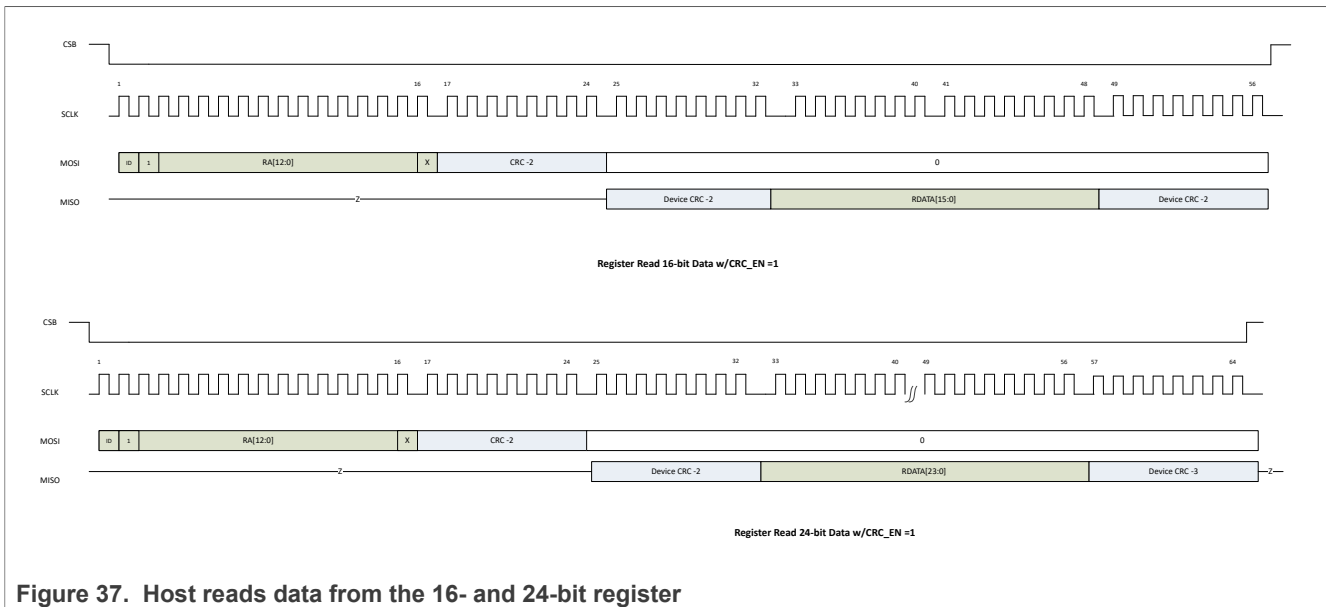

Figure 37. Host reads data from the 16- and 24-bit register
Figure 37 shows host read data from the 16-bit and 24-bit register. The host sends the first CRC byte, calculated based on the first 16-bit word, which includes device ID bit, RW_L bit, RA bits, and don't care bit (0). The second CRC byte is from the device to the host. It is calculated based on RDATA from the device to the host.